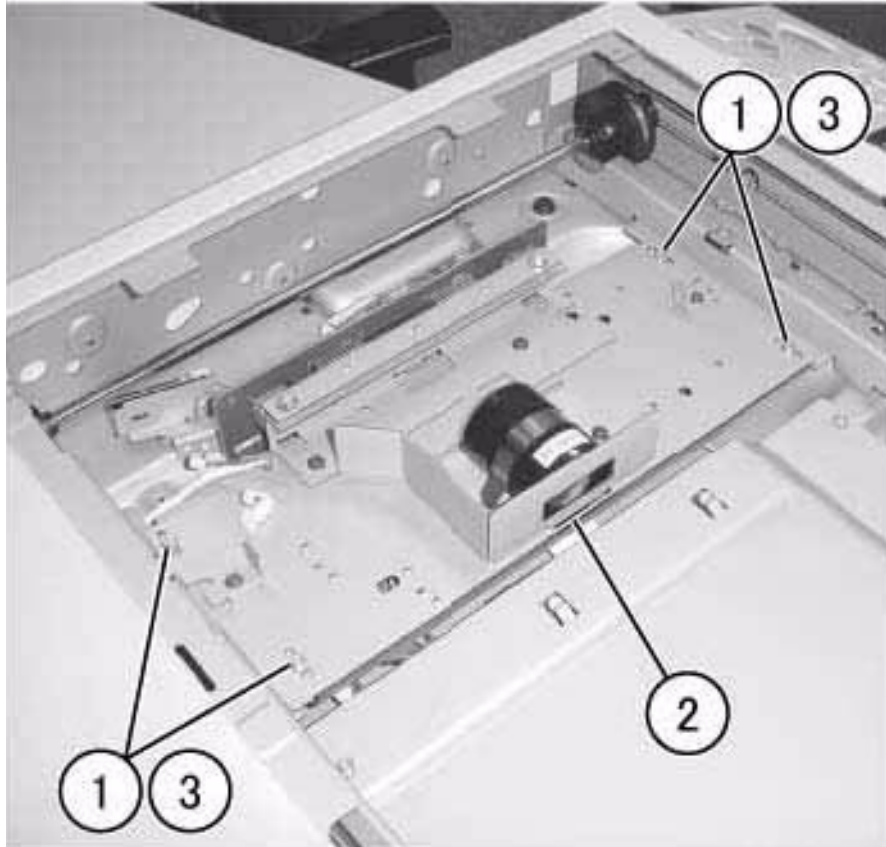

Figure 4 Removing the Lens Kit Assembly
5. Replace the Lens Kit Assembly. (Figure 4)